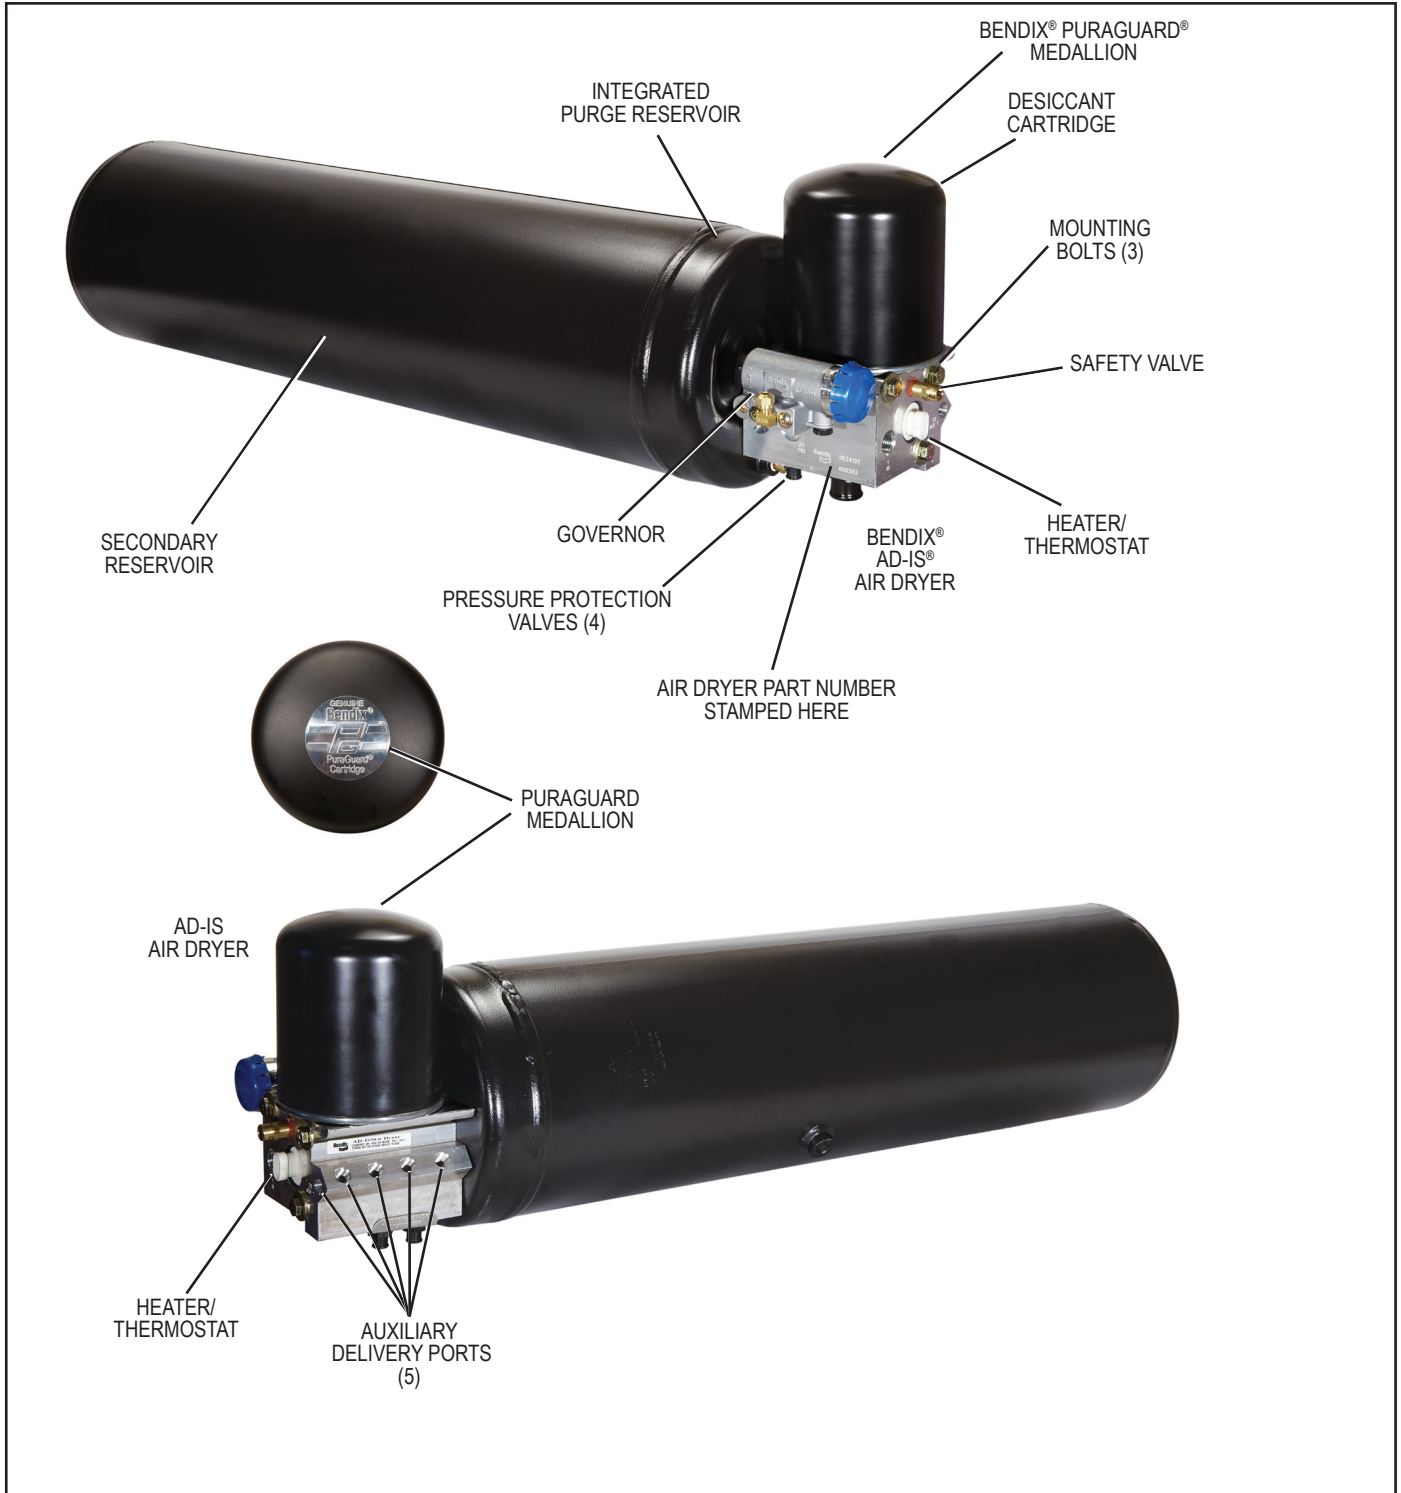

FIGURE 1 - BENDIX® DRM™ DRYER RESERVOIR MODULE
3. Check the Bendix® AD-IS® air dryer and purge reservoir bolts for tightness. *See Figure 1.* Re-torque the three air dryer bolts to 360–420 in-lbs and the four purge reservoir bolts to 300–360 in-lbs.